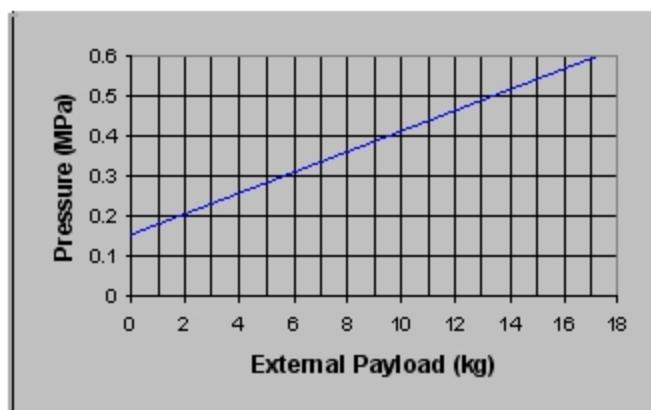

Figure 2-3: Counterbalance Pressure vs. External Payload
This relationship is shown graphically in Figure 2-3.
- Turn on the air supply to both the air bearing stage and the pneumatic counterbalance. The pressure supply to the counterbalance fitting must exceed the pressure determined by Figure 2-3.
4. Estimate the pressure required to lift the payload using Figure 2-3
The air supply to the air bearing and pneumatic counterbalance is important for the operation of the system. If compressed air is used, it must be filtered to 0.25 microns, dry to 0°F dew point, and oil free. If nitrogen is used, it must be 99.99% pure and filtered to 0.25 microns. The filtration requirement is to prevent particles from clogging the air bearing and the pneumatic cylinders. For the air bearing, air pressure in the range of 517 kPa to 551 kPa (75 psi to 80 psi), is necessary for use. The pneumatic counterbalance pressure supply is determined by the amount of payload carried by the stage (Figure 2-3).